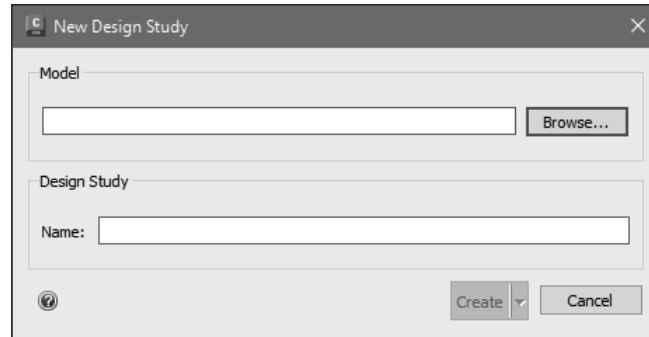

Figure-9. New Design Study dialog box
- Click on the **New** button from **Launch** section to create a new design study. The **New Design Study** dialog box will be displayed; refer to Figure-9.